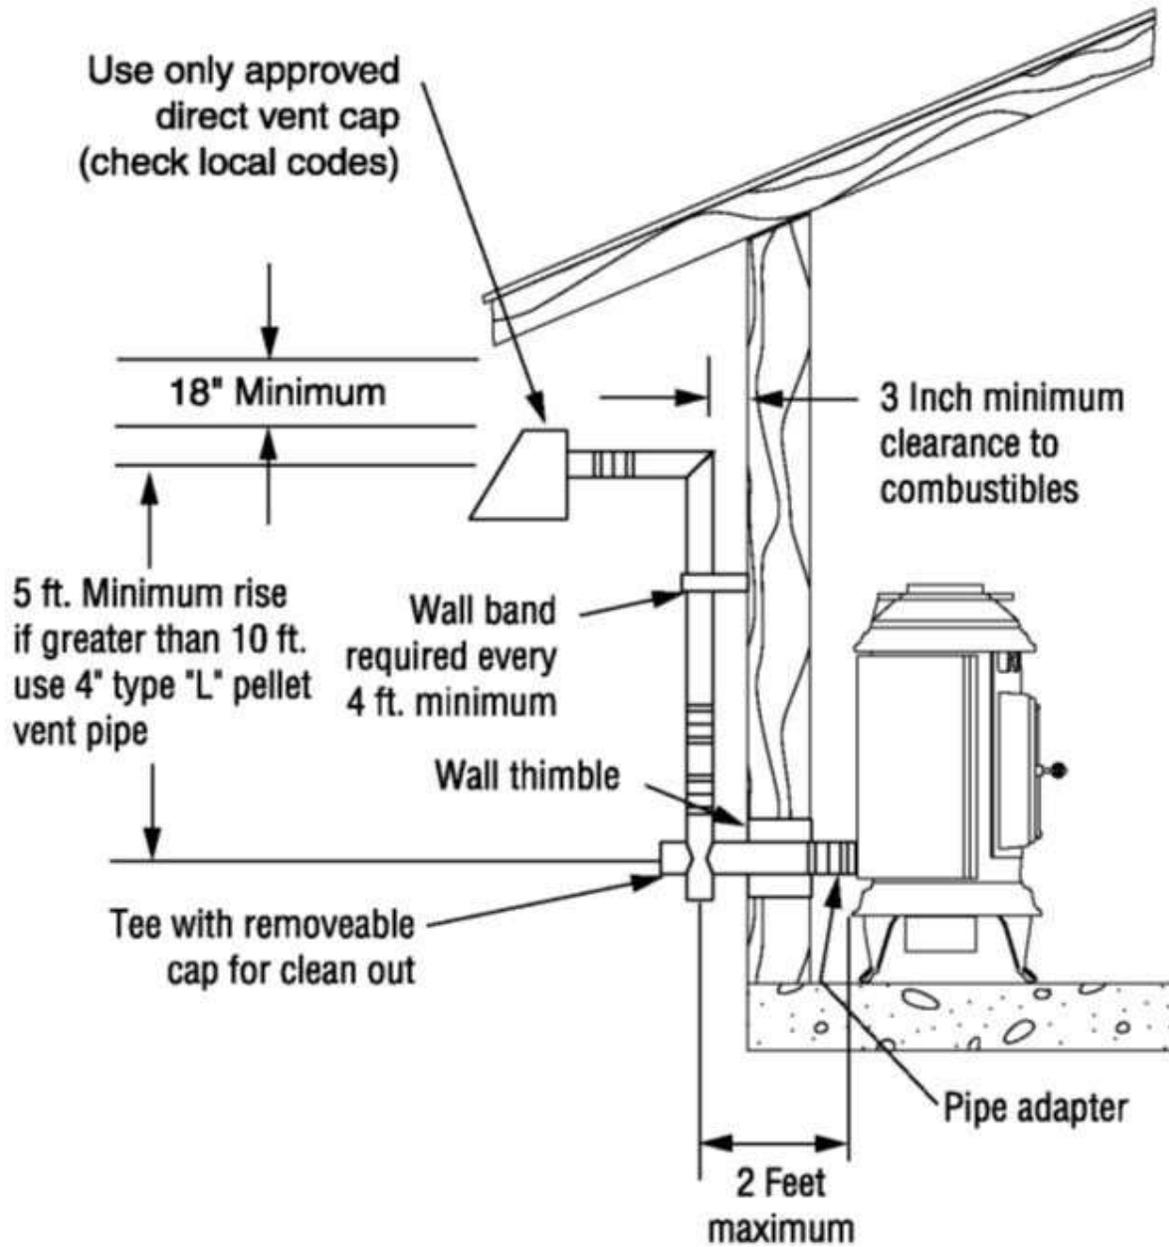

FIGURE 1
1. Outside combustion air is mandatory in mobile or modular home installations. An outside air inlet **MUST** be provided for combustion and ventilation air. The air inlet must remain unrestricted while unit is in use. Outside air connection is made at the air intake located on the rear of the stove (see **FIGURE 1**). The kit contains 2" flex tubing (part #43000-270). Outside air kit includes flex tube, hose clamp, and rodent screen/cap.
3. Connect a pellet vent tee with clean out cap and extend the vent pipe a **MINIMUM OF 5 FT VERTICALLY** maintaining a **MINIMUM 3"** clearance to combustibles with a square horizontal cap as shown in **FIGURE 1**.